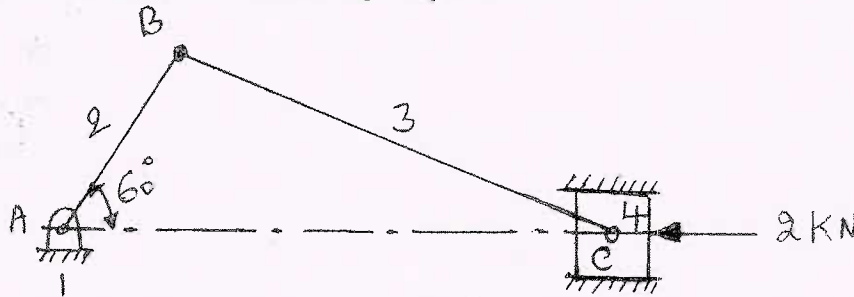

Fig.Q.1(b)
- b. In the slider crank mechanism shown in Fig.Q.1(b). The value of force applied to slider 4 is 2kN the dimensions of the various links are  $AB = 80\text{mm}$ ,  $BC = 240\text{mm}$ ,  $\theta = 60^\circ$ . Determine the forces on various links and the driving torque  $T_2$ . (14 Marks)